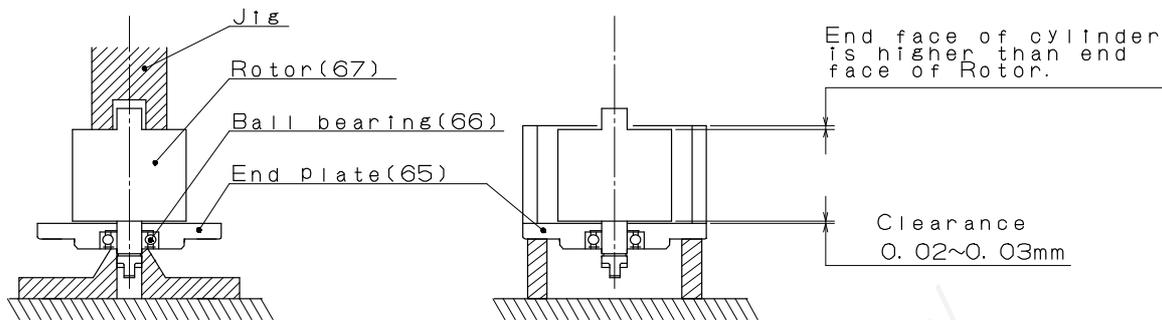

Fig.22
② Using the inner ring of Ball bearing(66) in End plate(65) for support, press Rotor(67) into Ball bearing using a jig and hand press.
Adjust the clearance between End plate(65) and Rotor(67) to 0.02~0.03 mm with End plate facing downwards while subjected to the mass of Rotor. (See Fig. 22)
⑤ Install Cylinder(69), making certain the end face of Rotor(67) does not protrude from the end face of Cylinder(69) (See Fig. 22).
⑥ Install Vane(70) into each vane slot on Rotor(67), slightly lubricating the vane portion.